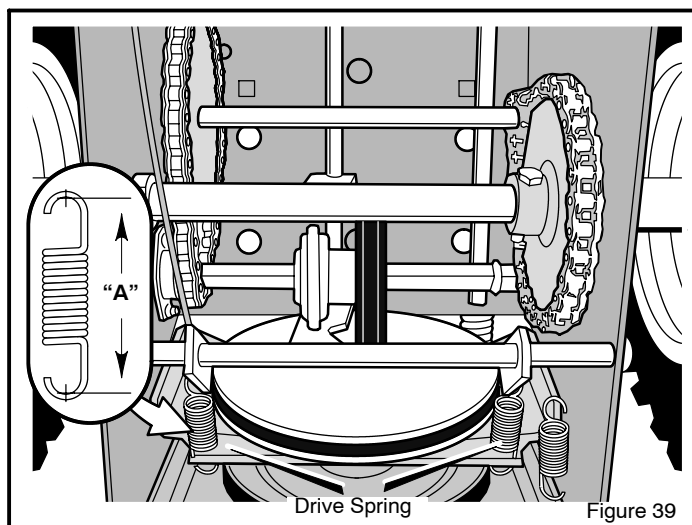

Figure 39
11. To check the adjustment, depress the drive lever and check the length of the **drive spring** (see Figure 39). In correct adjustment, the length of the **drive spring** is minimum 3 inches (76 mm.) maximum 3-3/8 inches (85 mm.).